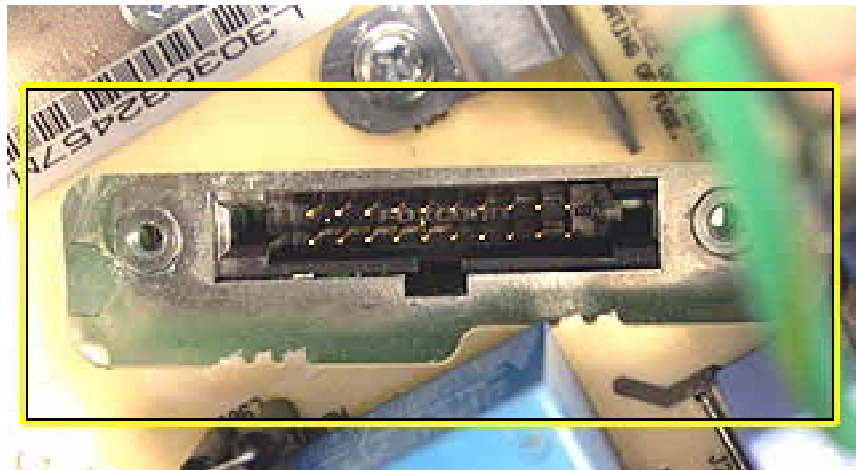

Figure 4 Main Logic Board Connector Pins
4. Remove the RGB cable and inspect the pins on the logic board connector (see Figure 4). If the pins are bent, carefully attempt to straighten them with a flatblade jeweler's screwdriver or needlenose pliers and test the board again. **Note:** The pins on this connector are very fragile. If they become damaged, you will need to replace the logic board.